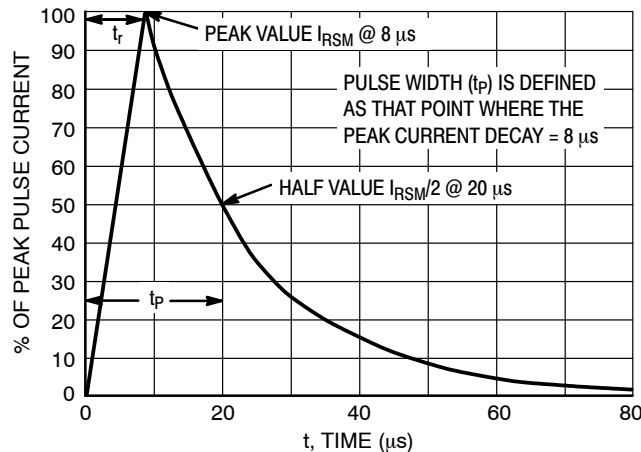

Figure 7. 8 x 20 μ s Pulse Waveform
- Surge current waveform per Figure 7.